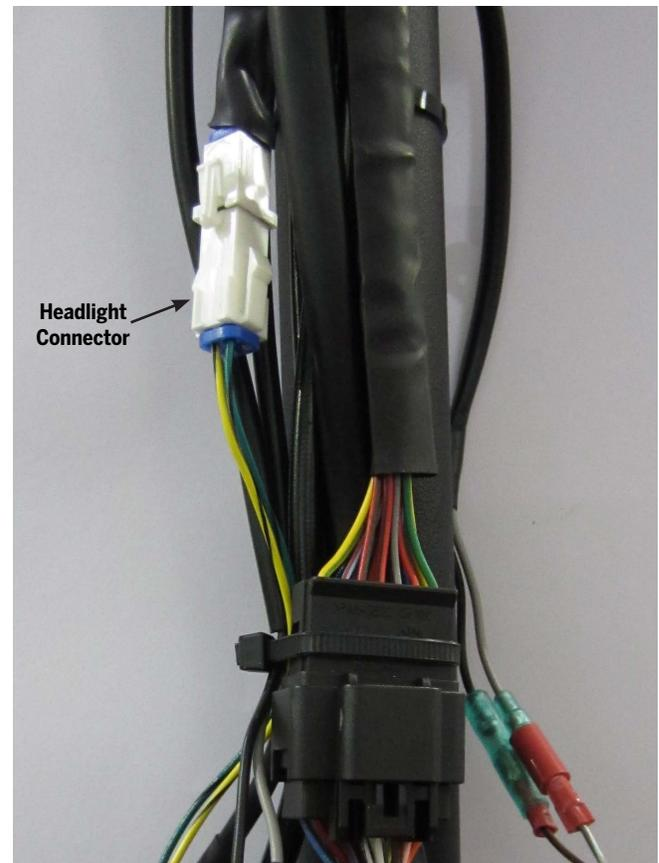

Figure 45: Headlight Harness
3. Disconnect the harness. See Figure 45.
4. Connect the Harness. See Figure 45.